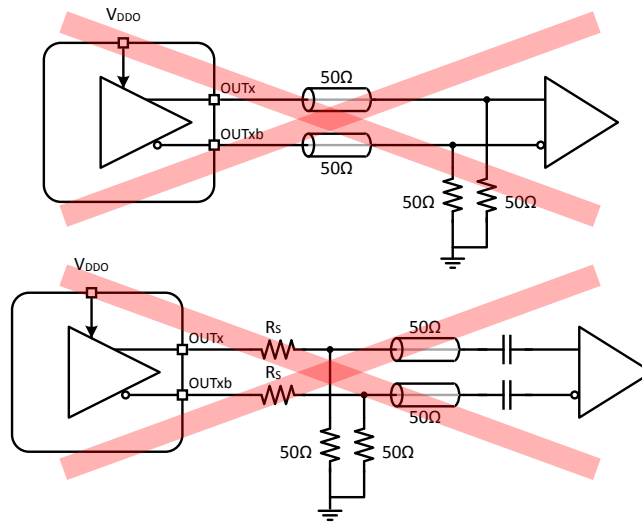

Figure 2.7. Incorrect HCSL Terminations
- Shunt resistors to ground or series resistors at the source should NOT be added, according to Figure 2.7 Incorrect HCSL Terminations on page 6.
- DC coupling the output clock with 50 ohms to ground should NOT be done, according to Figure 2.7 Incorrect HCSL Terminations on page 6.